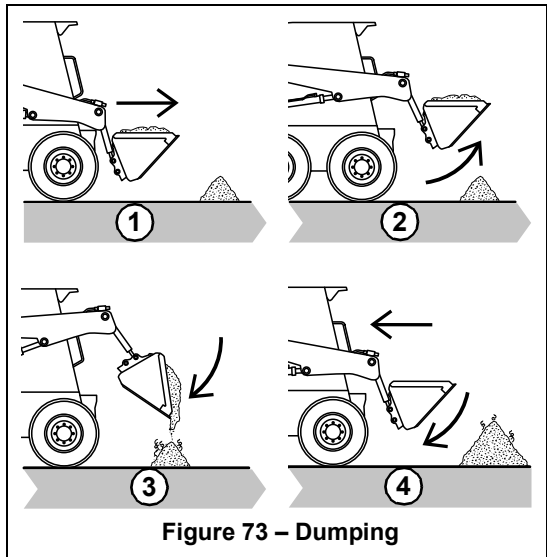

Figure 73 – Dumping
1. (Figure 73) Approach the pile with the bucket as low as possible.